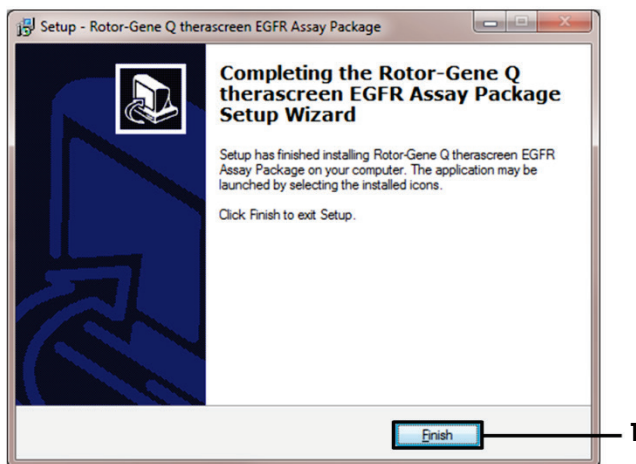

Figure 43. Completing the setup wizard (1 = “Finish”).
6. After the installation is complete, click **Finish** in the final Setup Wizard dialog box (Figure 43).